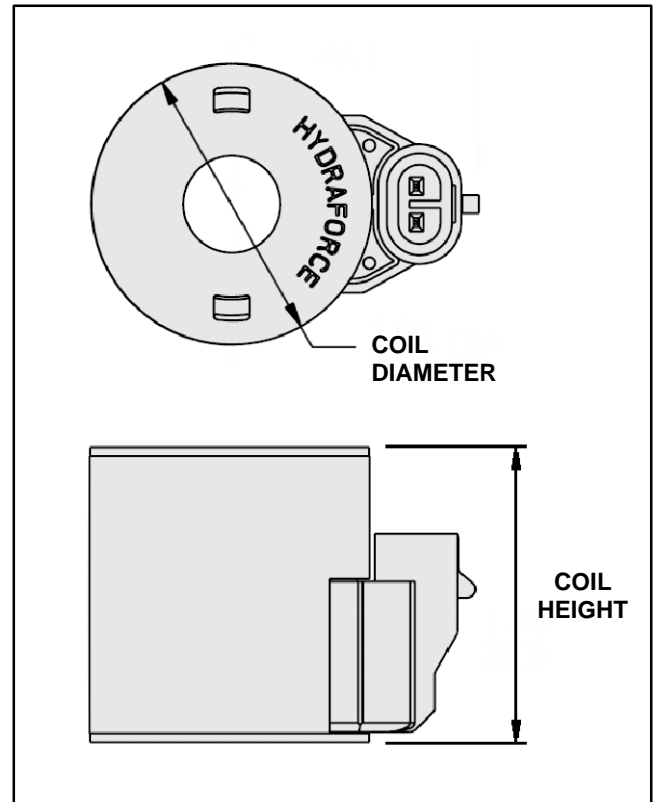

Figure 46
Two (2) different solenoid valve coils are used on the Reelmaster 7000. A coil can be identified by measuring its height and diameter (Fig. 46). Testing of the coils can be done with the coil remaining on the hydraulic valve.
2. Locate hydraulic valve solenoid coil to be tested. Identify coil by measuring the coil diameter and coil height (Fig. 46).
4. Using a multimeter (ohms setting), measure resistance between the two (2) connector terminals on the solenoid valve coil. The correct resistance for the solenoid coil is identified below: